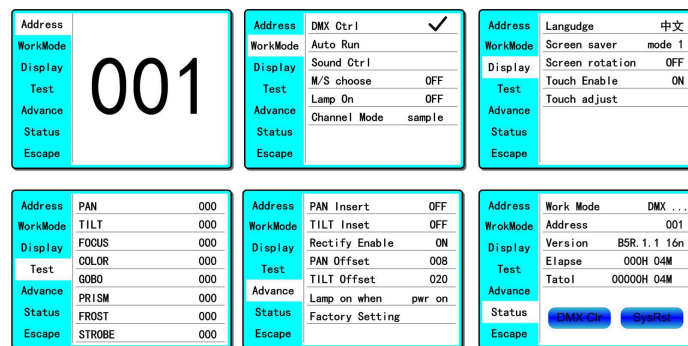

Figure 6 Parameter menu
- Click item of main menu, enter corresponding sub menu, shown in Figure 6, total 6 sub menu, includes class of parameter and status:
Via following operation, enter sub menu(parameter menu) shown in Figure 6